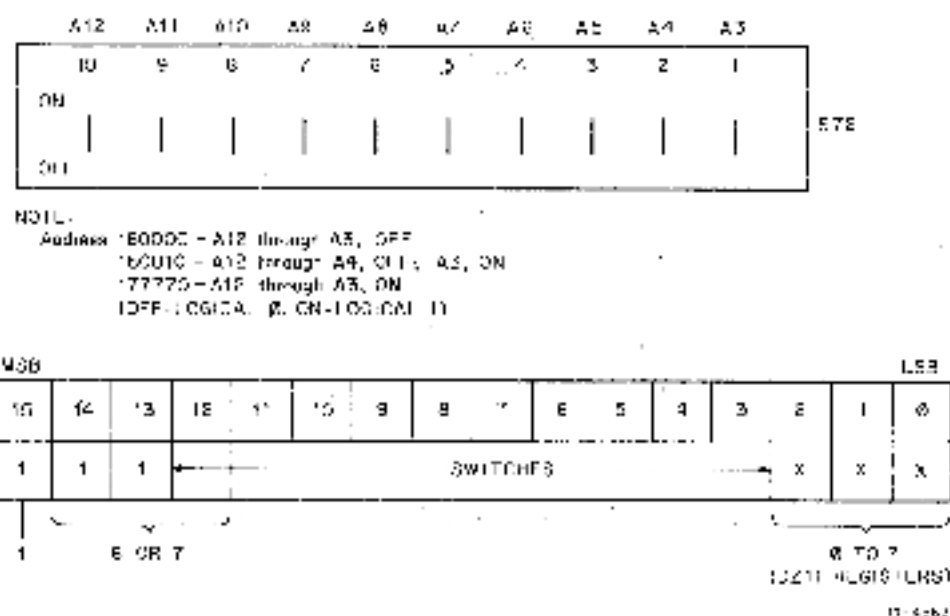

Figure 2-4 M7814 Address Selection
2. Refer to Paragraph 3.1.1 for a description of address assignments. Set the switches at E72 so that the module will respond to its assigned address. When a switch is closed (on), a binary 1 is decoded. When a switch is open (off), a binary 0 is decoded. Note that the switch labeled 1 corresponds to bit 3, 2 to bit 4, etc. (See Figure 2-4.)